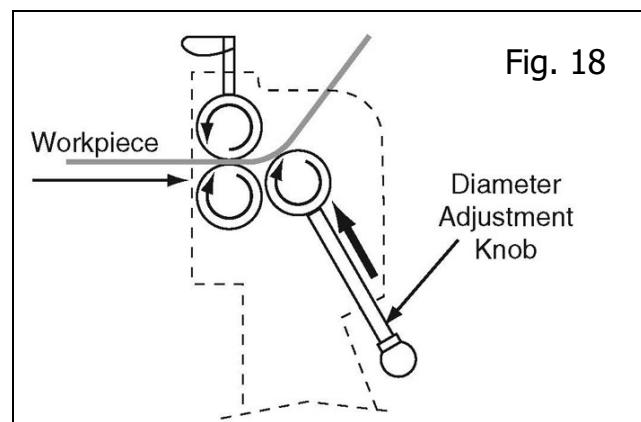

Fig. 18
5. Turn the hand crank to process the material through the slip rollers. Continue turning until the workpiece is completely through the upper and lower rollers, as illustrated in Figure 18.